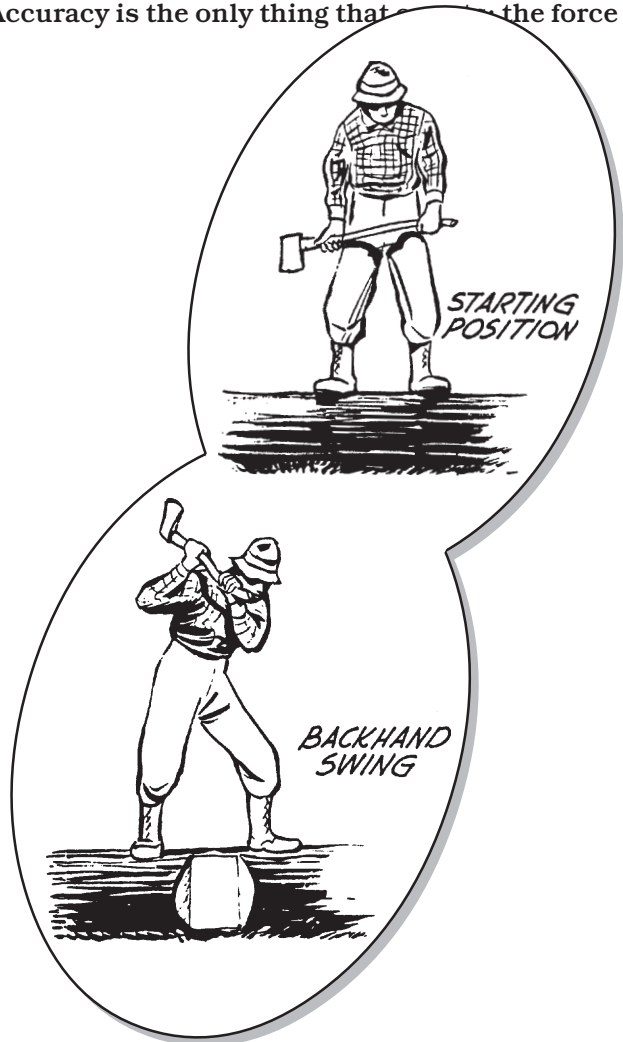

Figure 79—Backhand swing (drawings by Frederic H. Kock).
**Backhand Swing**—The backhand swing is used to cut the left side of the notch (Figure 79). Bring the ax over the right shoulder as in the forehand swing, but shift your body well to the left so that the ax comes down more in line with the left side of the notch. This backhand swing is somewhat more difficult to master gracefully. Proper ax use always includes these two motions, the forehand swing and the backhand swing, always over the right shoulder for right-handed choppers. Changing hand positions instead of using or developing the back swing technique is not considered acceptable ax use.